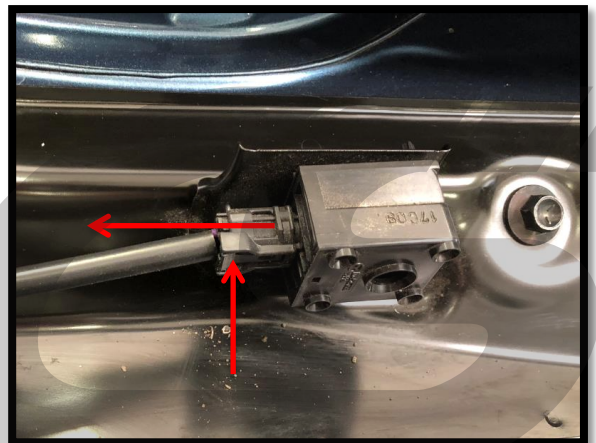

Figure 1j
q) Disconnect the electrical connector from the sensor located near the center of the cowl. Push in the tab on the front side and pull the connector free. Shown with **red arrows** in **Figure 1j**.